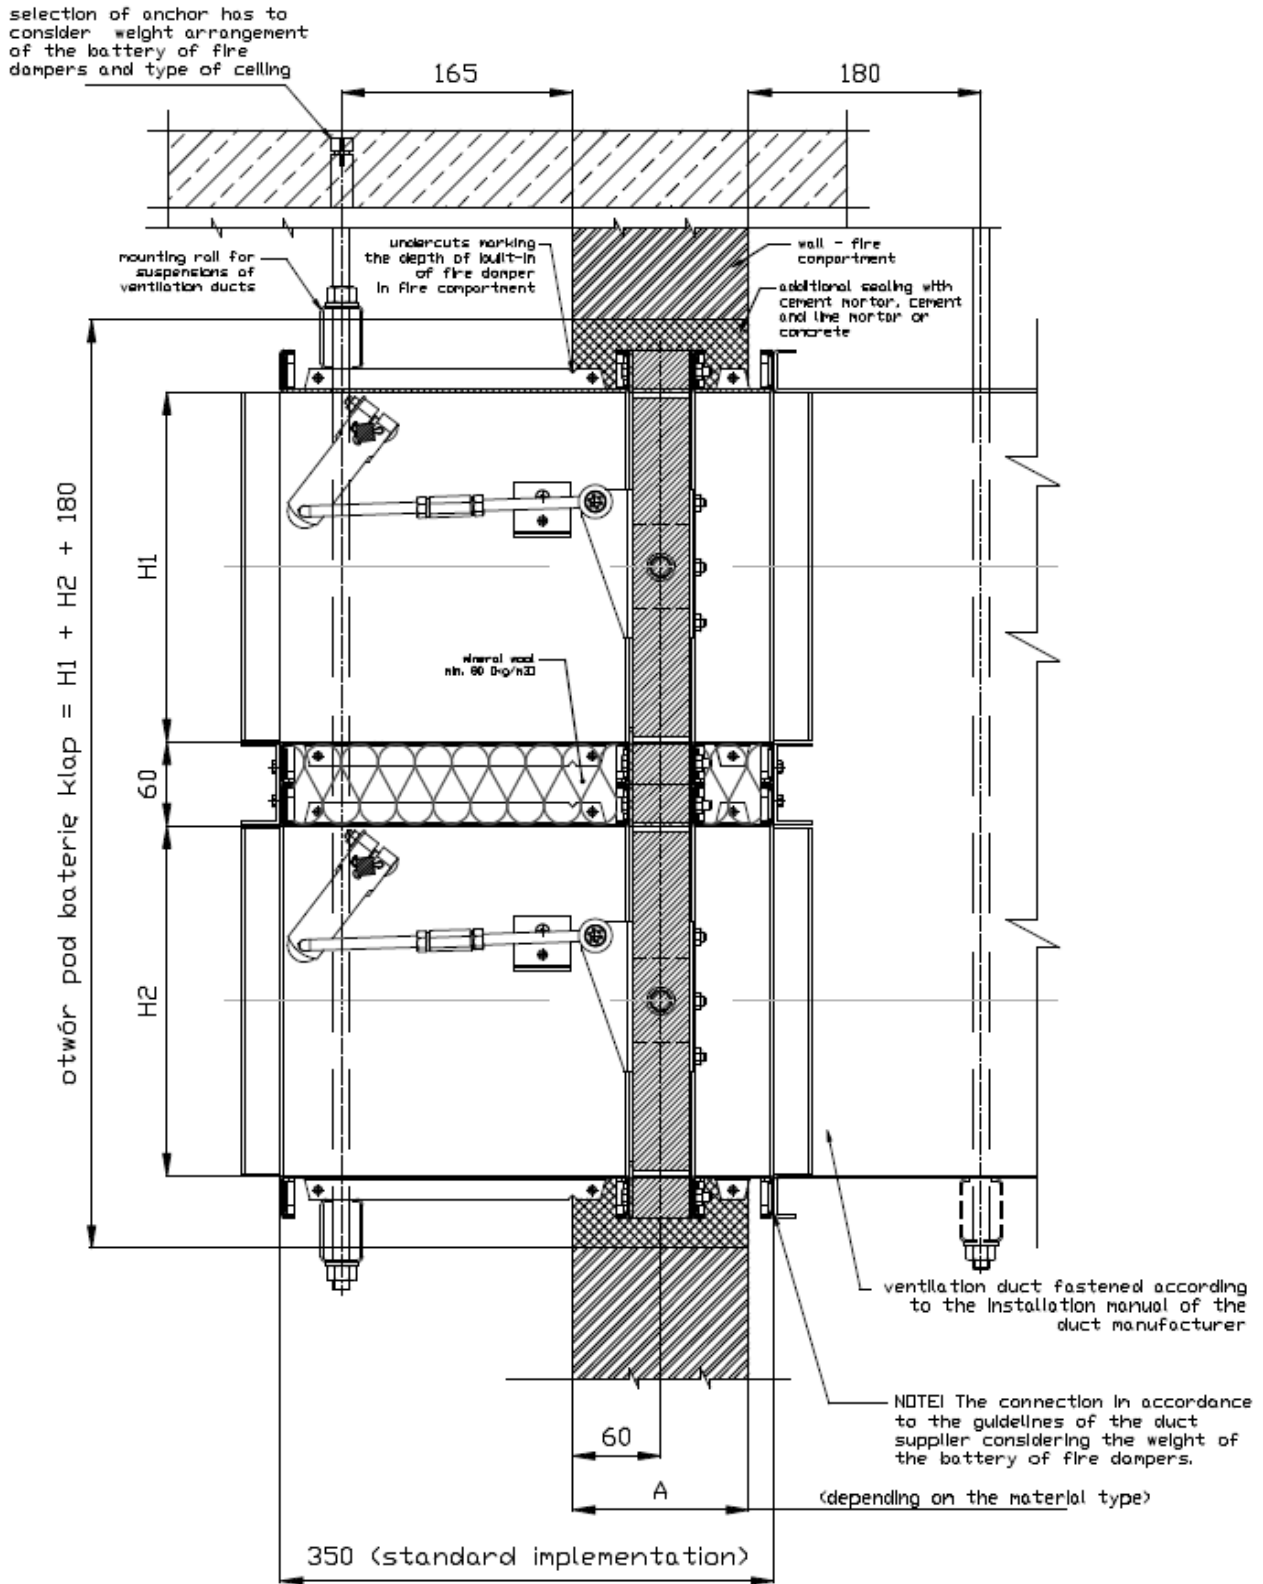
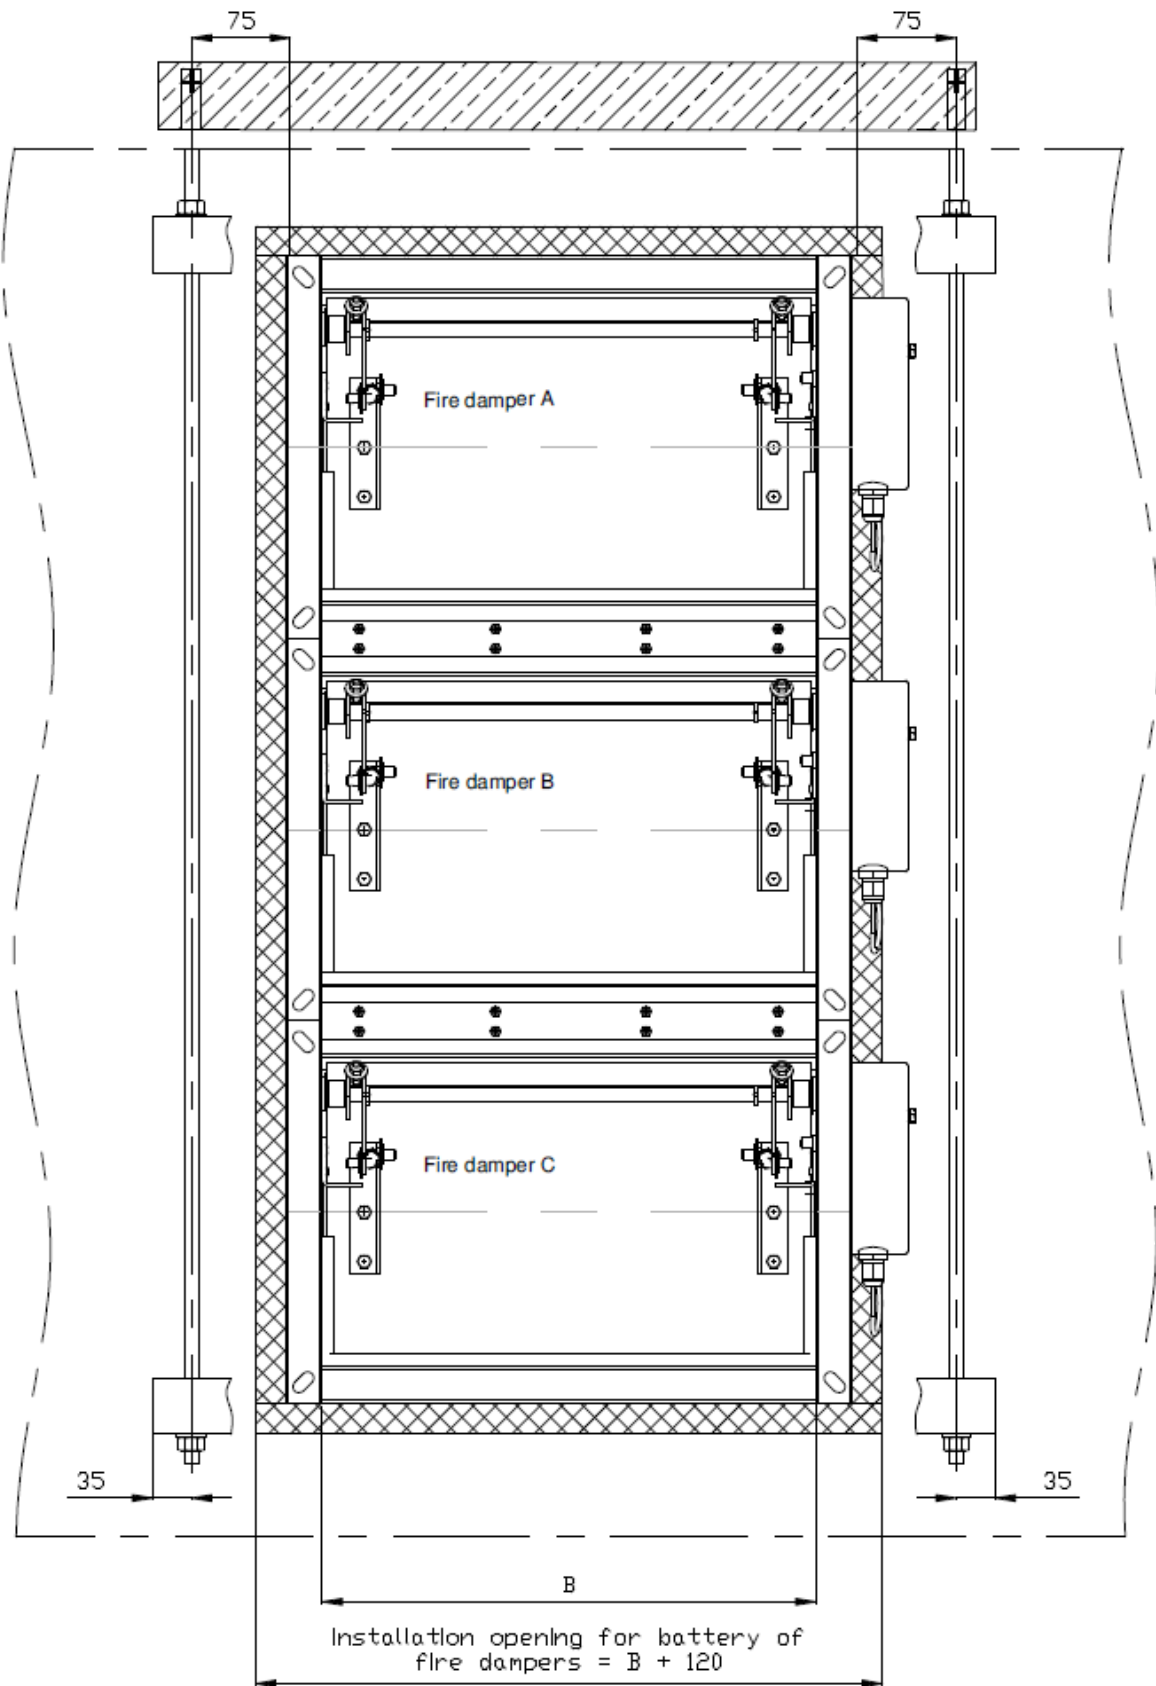

Figure 5.4. Installation of a battery consisting of two fire dampers KWP in vertical arrangement in rigid compartment – side view.
Figure 5.5. Installation of a battery consisting of three fire dampers KWP in vertical arrangement in rigid barrier – front view.
- for vertical battery consisting of three fire dampers:  $(B+120) \times (H1+H2+H3+240)$ , (Figure 5.4, Figure 5.5)